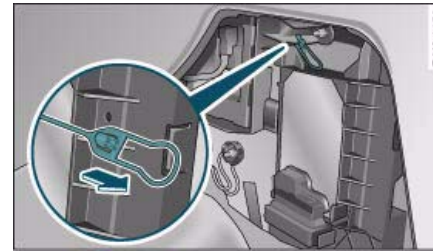

Fig. 220 Luggage compartment: Releasing the fuel tank flap manually
- Release the ring from its holder and pull the ring ⇒ fig. 220. You should now be able to open the tank flap in the usual way ⇒ *page 228*. ■